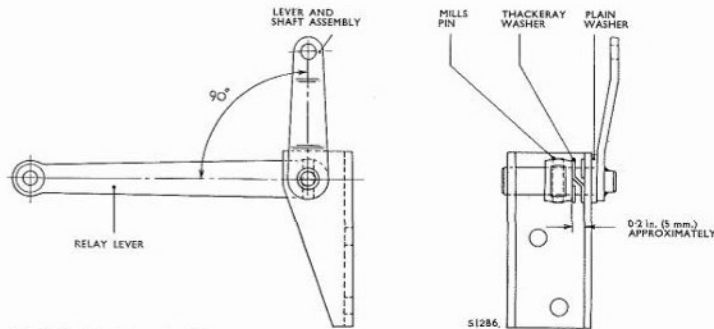

Fig. C.29. Accelerator relay shaft arrangement, showing the angular disposition of the relay levers (L.H.D. Models)
3. Assemble the relay lever, and the shaft and lever assembly to the support bracket, ensuring that the levers assume the correct angular position (see Fig. C.29). Drill the relay lever and shaft, securing the components using a Mills pin. The location of the relay